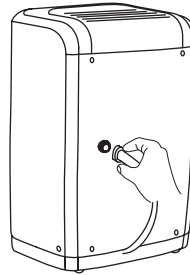

fig. 2
2. Insert the female threaded end of the hose onto the drain connector of the unit (fig. 2).